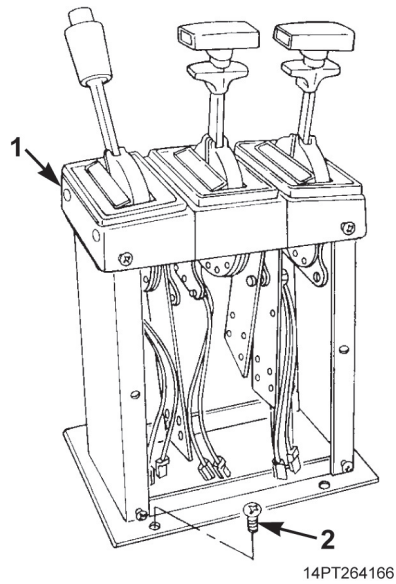

Figure 8. Shift Tower Installation.
9. Install four screws (Figure 8, Item 2) securing shift tower (Figure 8, Item 1) to cab floor.